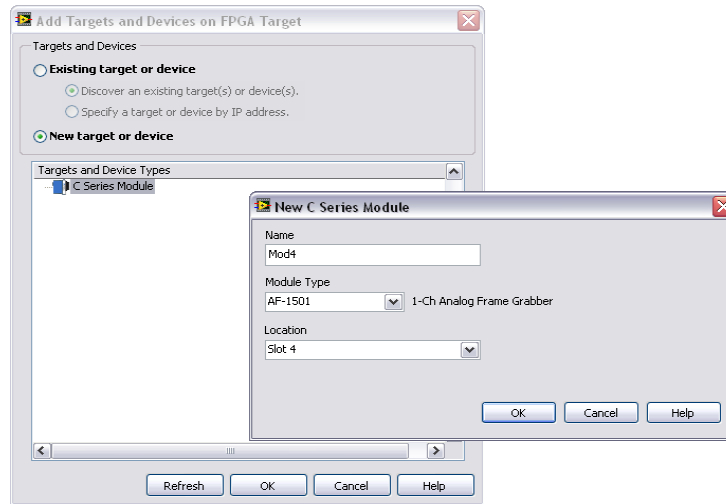

Figure 16: Adding New Module I/O Nodes to the Project
4. Add the module I/O nodes to your project for the slot it is installed in (See *Figure 16*). To do this, select **Add C Series modules ...** from the **FPGA Target** tree in your project. Select **New target or device** and select **AF-1501** for the **Module Type**. Select the desired slot number from the **Location** pull-down menu.